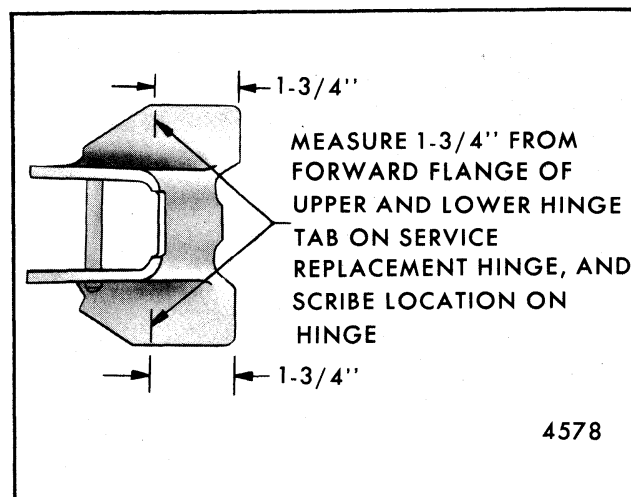

Fig. 5-79-Body Side Hinge Strap Installation - "X" Styles
1. Measure 1-3/4" rearward from upper and lower weld tab forward flange of replacement hinge, and mark dimension on hinge as shown in Figure 5-79.